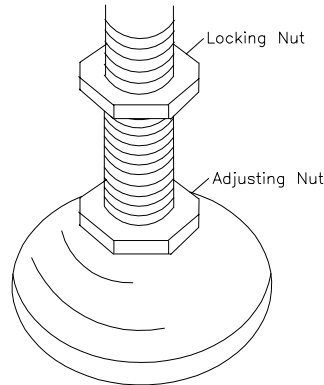

Figure 4-4. Leveling Foot Adjustment
1. Lower the leveling foot located in each corner of the rack until they all make contact with the floor. See Figure 4-4